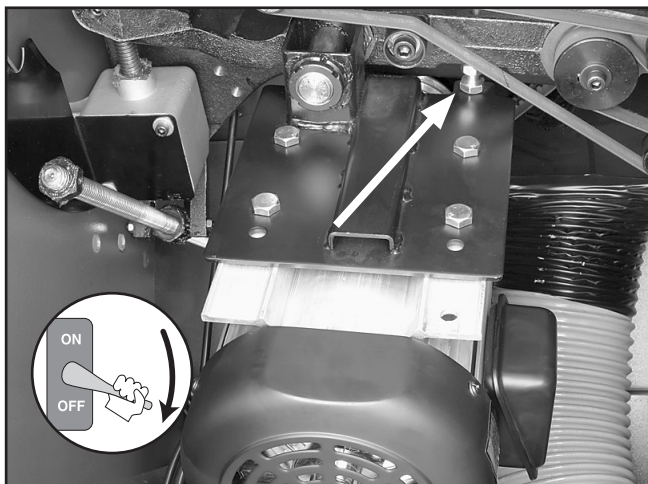

Figure 76. V-belt tension bolt.
3. Loosen the belt tension bolt (**Figure 76**) and pivot the motor up.